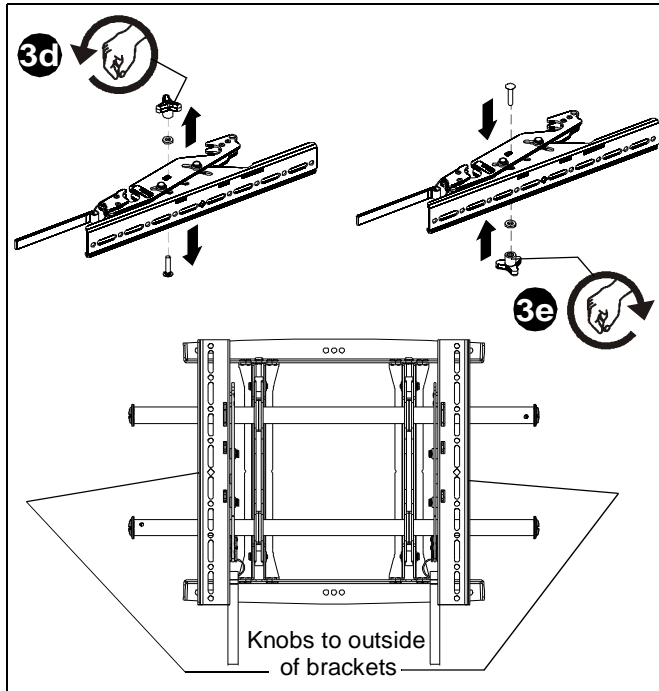

Figure 7
3. If necessary, the tilt interface bracket knobs may be switched to allow the interface brackets to be reversed. (See Figure 7)